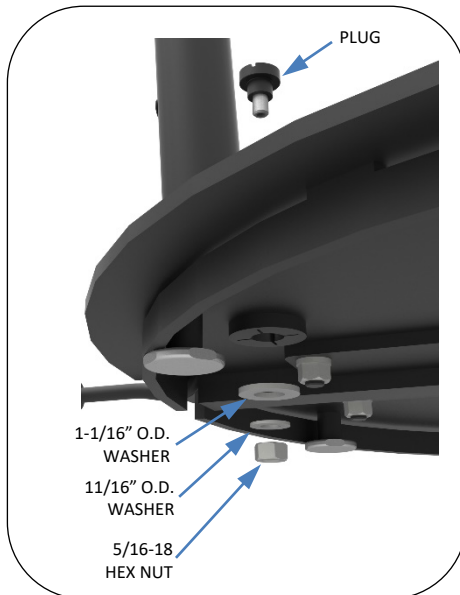

Fig. 3 – Remove plug to anchor freestanding unit
1. Using flat head screwdriver and ½” wrench, remove plug hardware in anchoring hole, see Fig. 3.